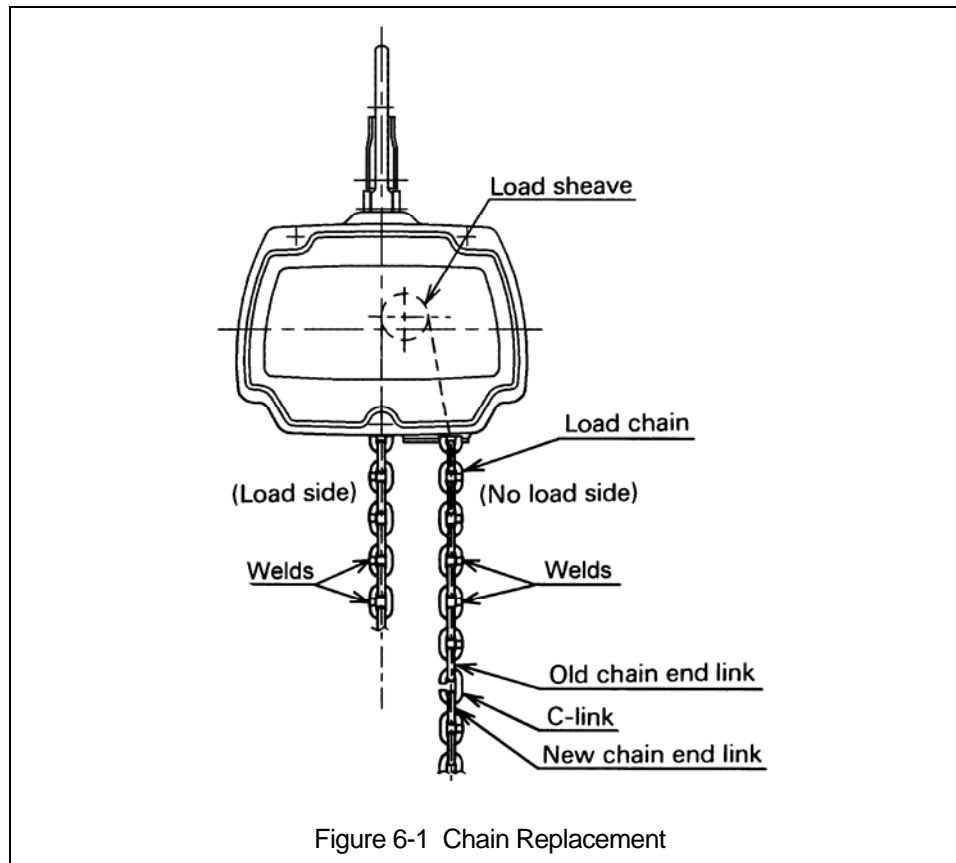

Figure 6-1 Chain Replacement
- 5) Using a C-link, attach the new chain to the end link of the old chain on the no-load side. The end link of the new Load Chain should be connected so that the welded portions of the Load Chain's standing links are oriented to the outside as they pass over the sheave. Refer to Figure 6-1.